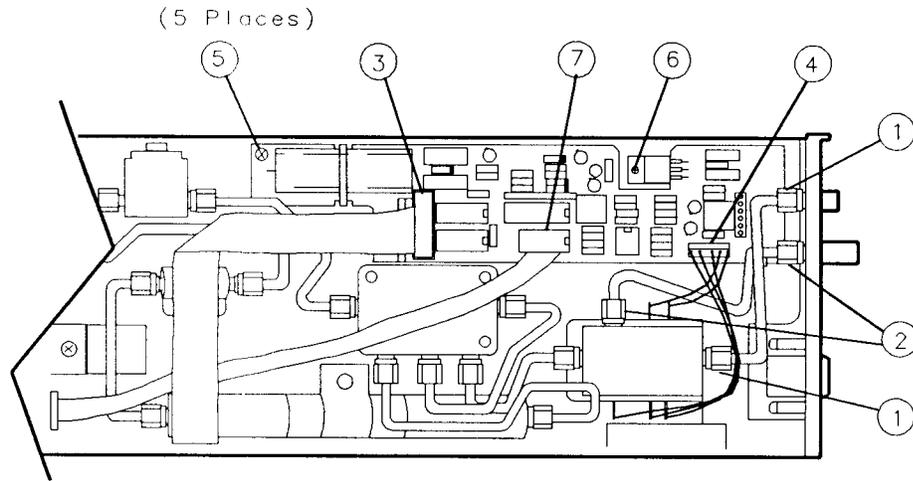

Figure 6-2. A1 Miscellaneous Bias Replacement
3. Remove the W8 semirigid cable from rear-panel J3 and from A12 Leveling Amplifier LO IN (2). See Figure 6-2.
4. Remove the W7 semirigid cable from rear-panel J2 and from A12 1st LO AUX OUT port (2).
5. Disconnect the W15 ribbon cable from A1J3 (3).
6. Disconnect the A12 Leveling Amplifier W1 cable assembly from A1J2 (4).
7. Disconnect the A8 Attenuator W1 cable assembly from A1J1 (7).
8. Remove the five board-assembly screws (5).
9. Remove the A1U1 Voltage Regulator screw (6).